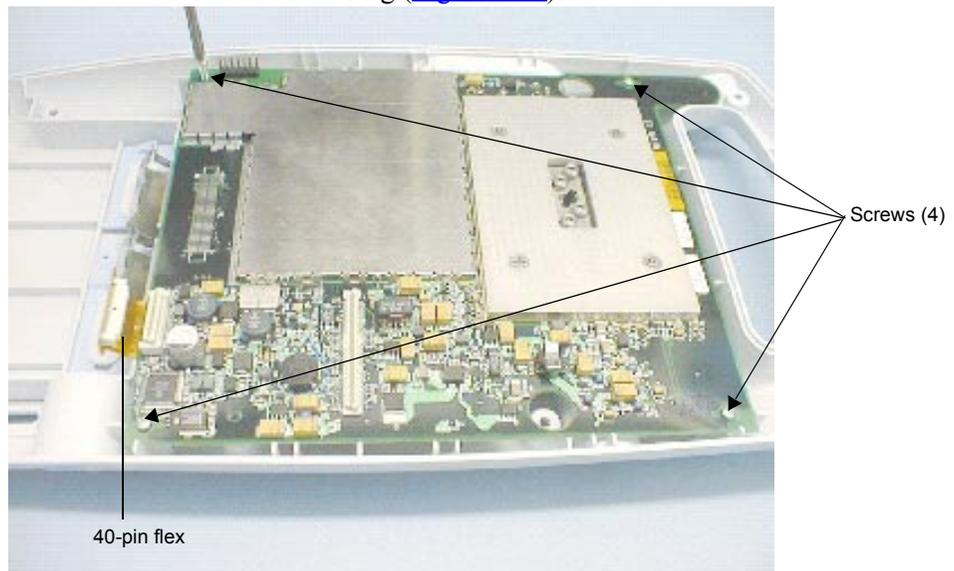

Figure 7.19 Removing the Main PCBA from the Bottom Housing
7. Use a #1 Phillips screwdriver to remove the four screws that connect the Main PCBA to the bottom housing (Figure 7.19).